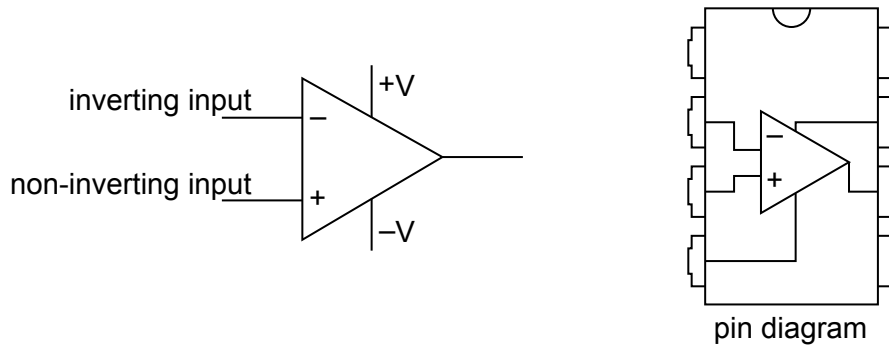

Fig. 12.2
- (d) Fig. 12.2 shows an operational amplifier symbol and the pin diagram of an operational amplifier IC. The circuit will operate on a 6V single rail supply.